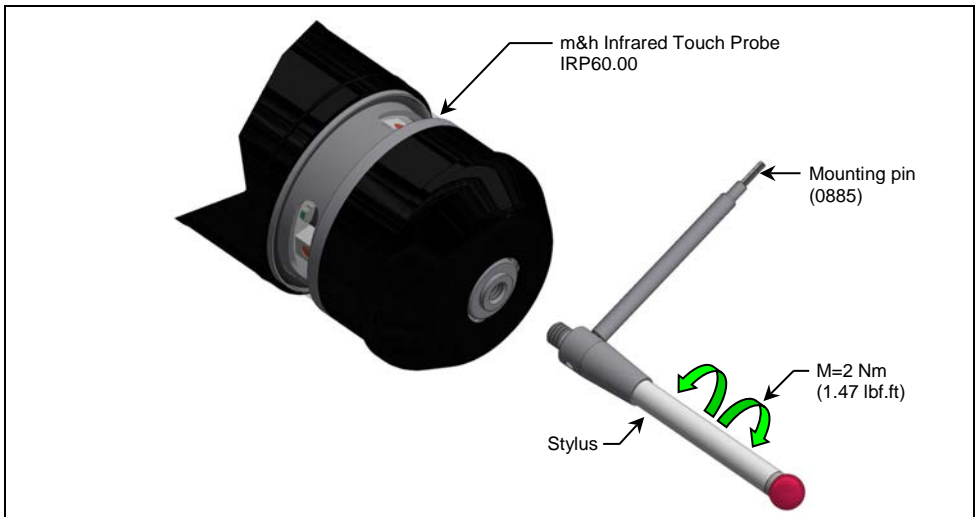

Fig. 5 Stylus change
2. Carefully screw the new stylus into the Touch Probe (Fig. 5).